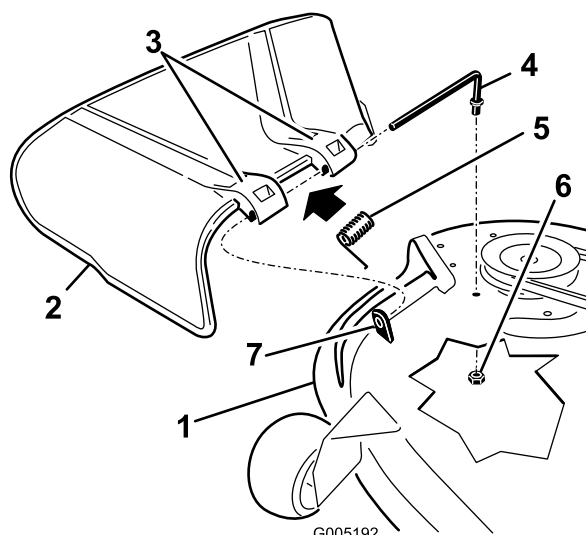

Figure 68
- Locate items shown in Figure 68.
- Remove the nut (3/8 inch) from the rod under the mower (Figure 68).
- Slide the rod out of the short stand-off, spring, and grass deflector (Figure 68). Remove the damaged or worn grass deflector.
- Replace the grass deflector (Figure 68).
- Place the spring on the rod, with end wires down, and between the grass deflector brackets. Slide rod through second grass deflector bracket (Figure 68).
- Insert rod at front of grass deflector into short stand-off on deck. Secure rear end of rod into the mower with a nut (3/8 inch) (Figure 68).